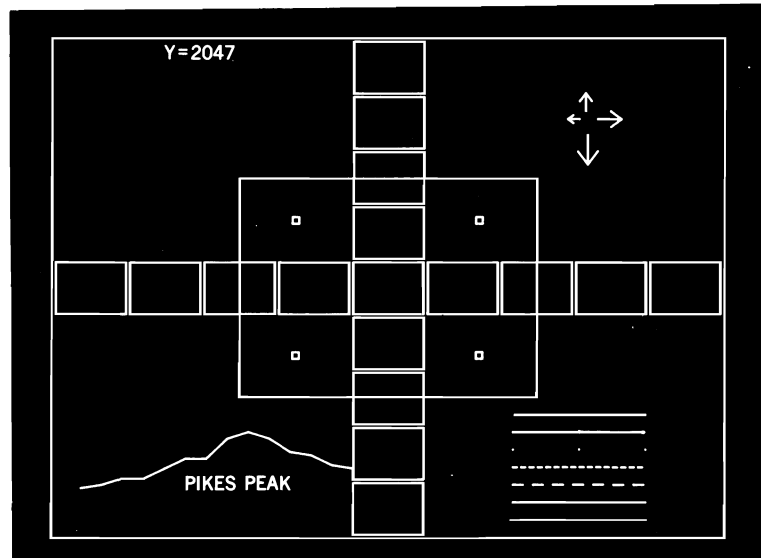
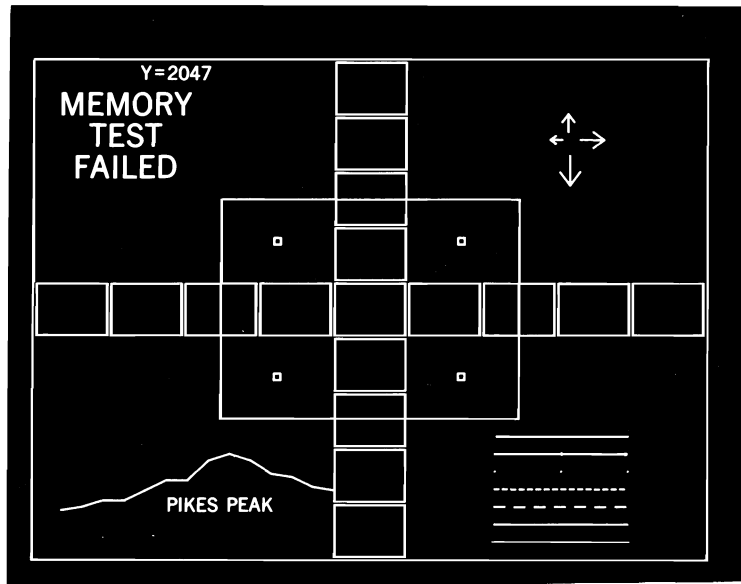

Figure 4-2. Display of Properly Calibrated Pattern
Figure 4-5. Memory Test Fail
The following procedure is directed at obtaining the correct performance verification pattern on the 1345A screen. The internal test and calibration pattern may be initiated by pulling disconnect sense high from the user interface and tri-stating all other signal lines. The test pattern is used to verify correct operation of the 1345A without the use of an external controller by disconnecting the rear panel data cable and applying power to the 1345A. If the 1345A is functioning properly, the test and calibration pattern should appear on the display. Figure 4-2 shows a valid test and calibration pattern. The internal self test will also test the memory option if installed. If the memory is defective the 1345A will appear as in figure 4-5. If the 1345A is not calibrated or is not operating correctly, contact your local Hewlett-Packard authorized sales and service office.
- c. Check for a display as shown in figure 4-2.
f. If Option 704 is installed, the performance test will verify correct operation automatically. If the memory circuit is defective the display shown in figure 4-5 will appear.